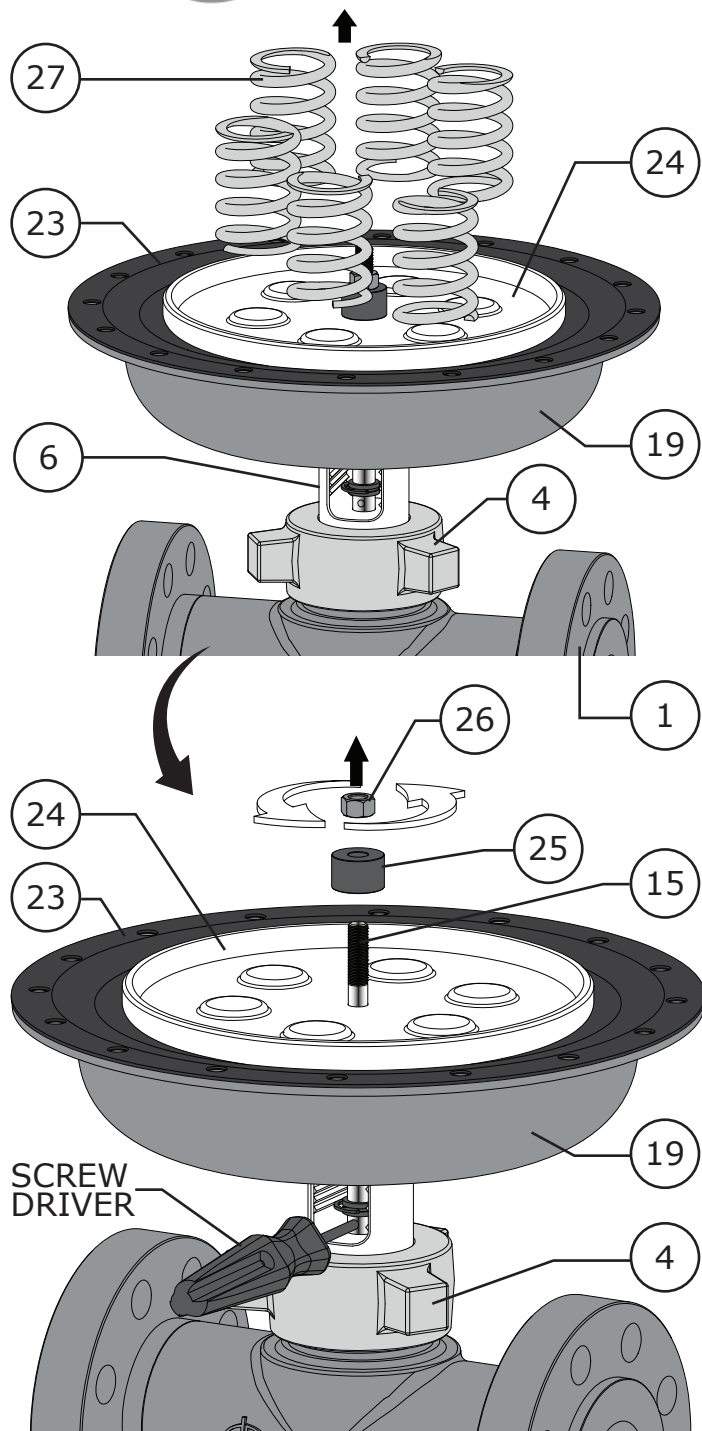

Figure 12 For Fail Closed Actuator (Steps 1 to 3)
- 2 A 5/8" wrench will be required to remove the stem nut (Key 26). **NOTE:** It may be necessary to immobilize the valve stem (Key 15) using a screwdriver or rod to keep the valve stem from rotating while removing the stem nut. Refer to Figure 12.